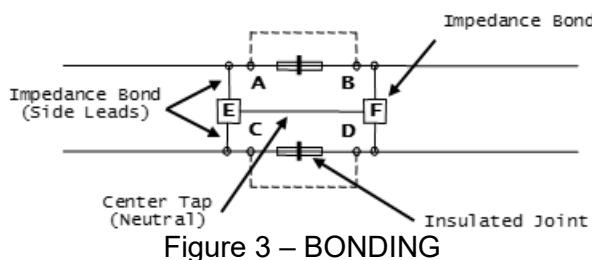

Figure 3 – BONDING
**1.604** Method of applying temporary rail jumpers in electrified territory when impedance bond side leads are to be removed or when neutral of bonds are to be opened. (See Figure 3)